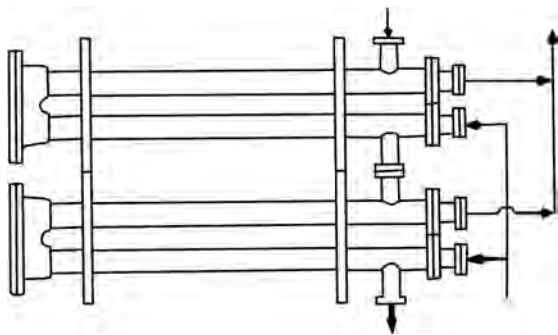

FIGURE 10.1 Double pipe (hairpin) heat exchanger with annuli connected in series and inner pipes connected in parallel.
- In order to meet pressure drop constraints, it is sometimes convenient to divide one stream into two or more parallel branches while leaving the other stream intact. Such a case is shown in Figure 10.1,